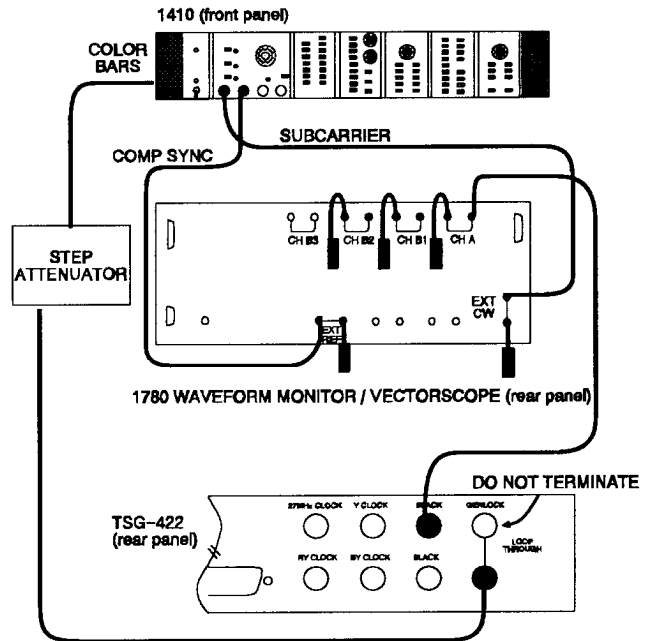

Fig. 5-4. Setup to check the 525/60 genlock.
- Connect the equipment as shown in Fig. 5-4.
- a. Connect the equipment as shown in Fig. 5-4.